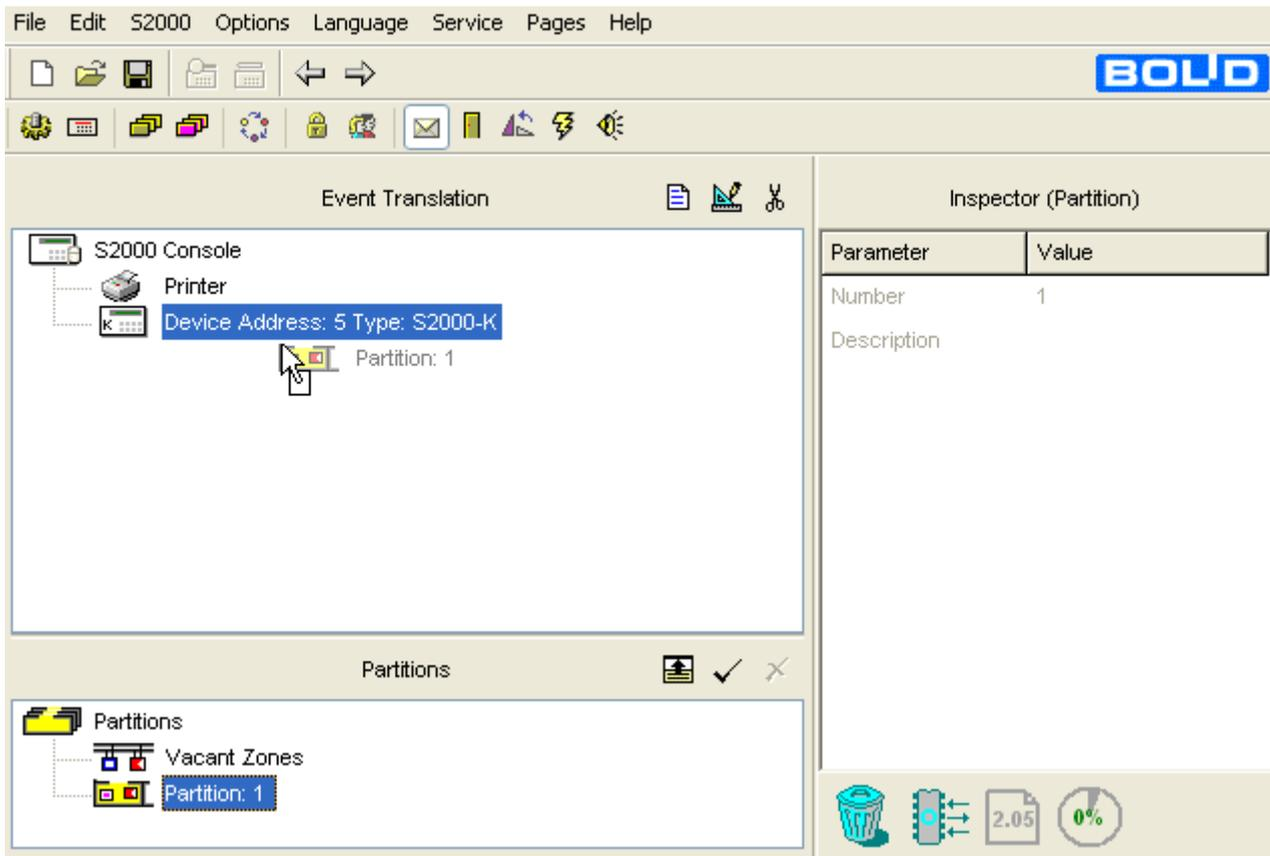

Figure 13
5. Drag and drop the partitions which events will be displayed by the keypad from the Partitions window on the keypad descriptor in the Event Translation window (see Figure 13).